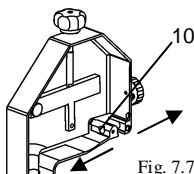

Fig. 7.7.8
- Remove the screw fixtures on the blade guide “10” as in illustrated in fig. 7.7.8 and wash utilising a pH 7 neutral detergent